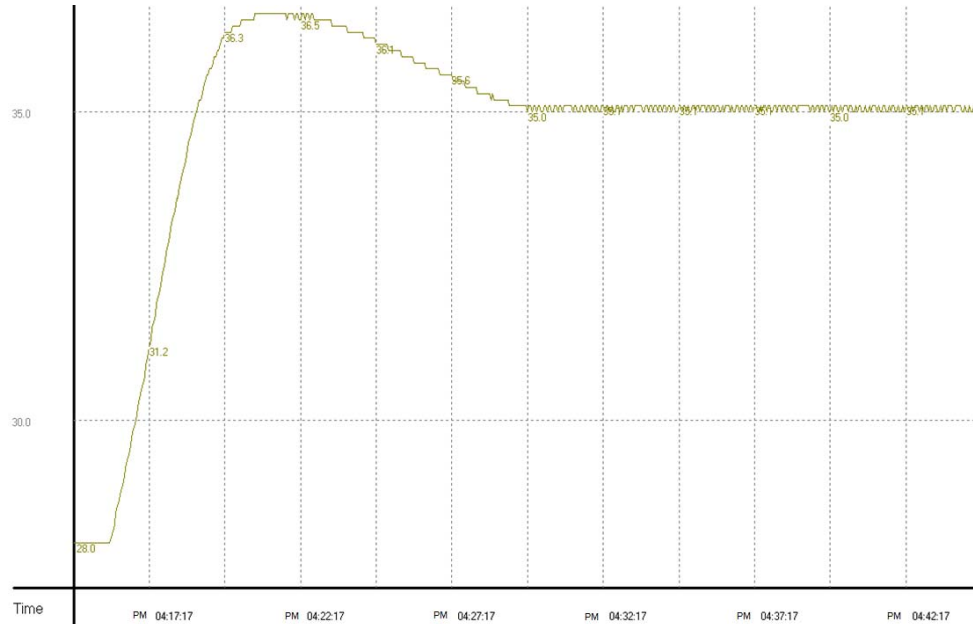

Figure 12
- ◆ Use the PID temperature control parameters (K_P , K_I , and K_D) calculated, and enable M0 and M1 again. The experimental result is shown in Figure 12.
The experimental result of using the parameters (K_P , K_I , and K_D) after the adjustment for temperature control is shown in Figure 12.